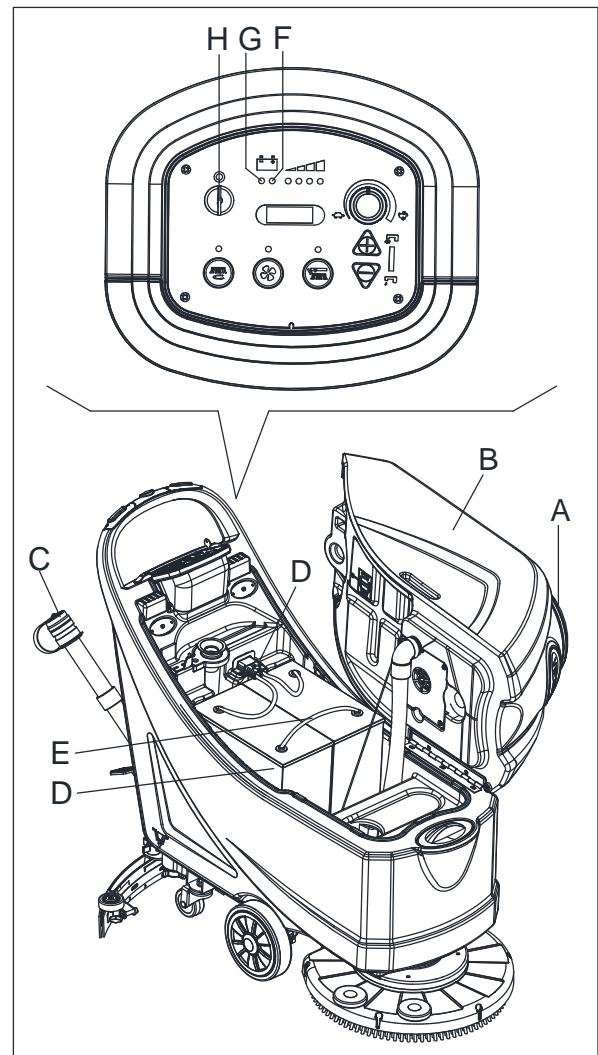
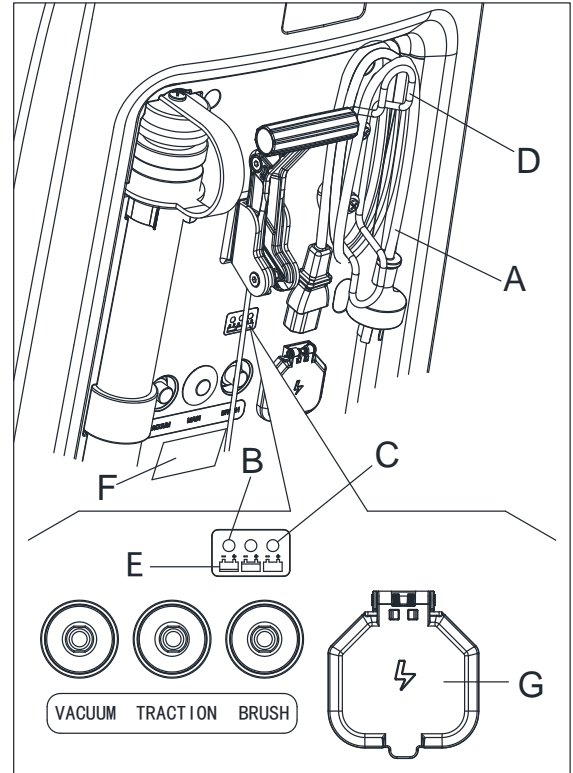

Figure 14
Figure 15
Charge the batteries when the yellow (F, Figure 14) or red warning light (G) turns on, or when finishing cleaning.
1. Open the cover (A, Figure 14) and check that the recovery water tank (B) is empty, otherwise empty it with the drain hose (C).
3. Turn the ignition key (H) to "0".
4. Carefully lift the tank (B).
- Check the level of electrolyte inside the batteries (D); if necessary, top up through the caps (E).
- Leave all the battery caps (E) open for next charging.
- If necessary, clean the upper surface of the batteries (D).
7. Connect the battery charger cable (A, Figure 15) to the electrical mains (G) (the electrical mains voltage and frequency must be compatible with the battery charger values shown on the machine serial number plate (F)). When the battery charger is connected to the electrical mains, all machine functions are automatically cut off. If the red warning light (B) on the battery charger control panel stays on, the battery charger is charging the batteries.
8. When the green warning light (C) turns on, the battery charging is completed.
9. When the battery charging is completed, disconnect the battery charger cable (A) from the electrical mains (G) and wind it round its housing (D).
For further information about the operation of the battery charger (E, Figure 15), see the relevant Manual.